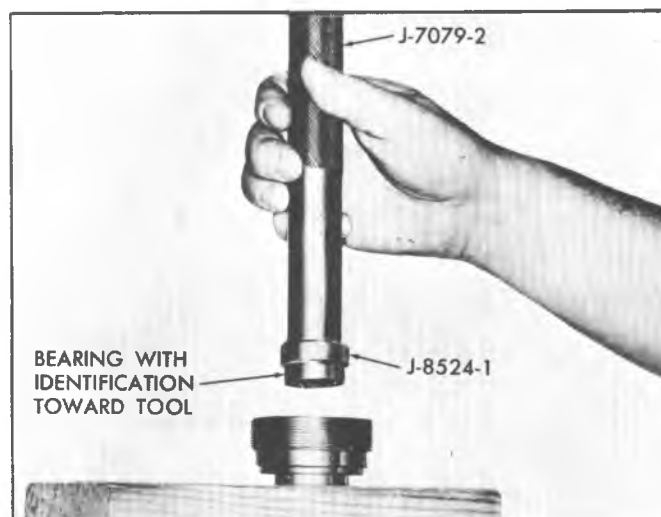

Fig. 6--Installing Bearing
1. If the needle bearing was removed, place new needle bearing over Tool J-8524-1 and J-7079-2, with the bearing manufacturer's identification against the tool, and drive the bearing into the adjuster plug until the tool bottoms in the housing (Fig. 6).